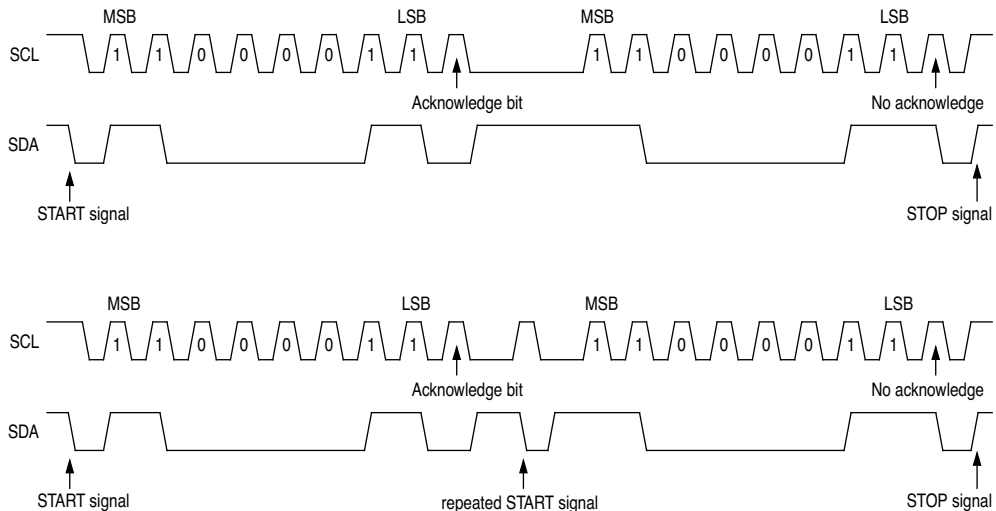

Figure 8-2 M-Bus Transmission Signal Diagram
- They are described briefly in the following sections and illustrated in Figure 8-2.
When the bus is free, i.e., no master device is occupying the bus (both SCL and SDA lines are at logic high), a master may initiate communication by sending a START signal. As shown in Figure 8-2, a START signal is defined as a high to low transition of SDA while SCL is high. This signal denotes the beginning of a new data transfer (each data transfer may contain several bytes of data) and wakes up all slaves.
Only the slave with matched address will respond by sending back an acknowledge bit by pulling the SDA low at the 9th clock; see Figure 8-2.
Each data byte is 8 bits long. Data can be changed only when SCL is low and must be held stable when SCL is high as shown in Figure 8-2. One clock pulse is for one bit of data transfer, MSB is transferred first. Each data byte has to be followed by an acknowledge bit. Hence, one complete data byte transfer requires 9 clock pulses.
As shown in Figure 8-2, a repeated START signal is to generate a START signal without first generating a STOP signal to terminate the communication. This is used by the master to communicate with another slave or with the same slave in a different mode (transmit/receive mode) without releasing the bus.
The master can terminate the communication by generating a STOP signal to free the bus. However, the master may generate a START signal followed by a calling command without generating a STOP signal first. This is called repeat START. A STOP signal is defined as a low to high transition of SDA while SCL is at a logical high; see Figure 8-2.